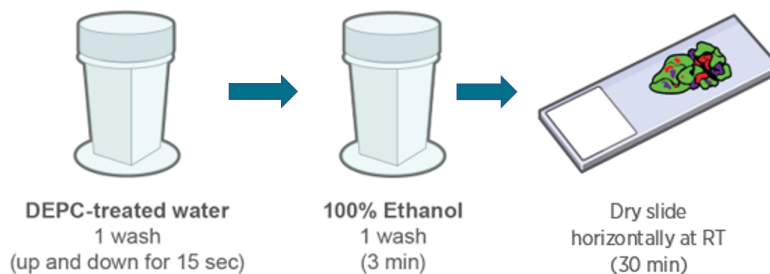

Figure 30: Water and Ethanol Wash
7. **Immediately transfer all slides to staining jar containing fresh DEPC-treated water.** Move slides up and down for 15 seconds to wash (Figure 30).